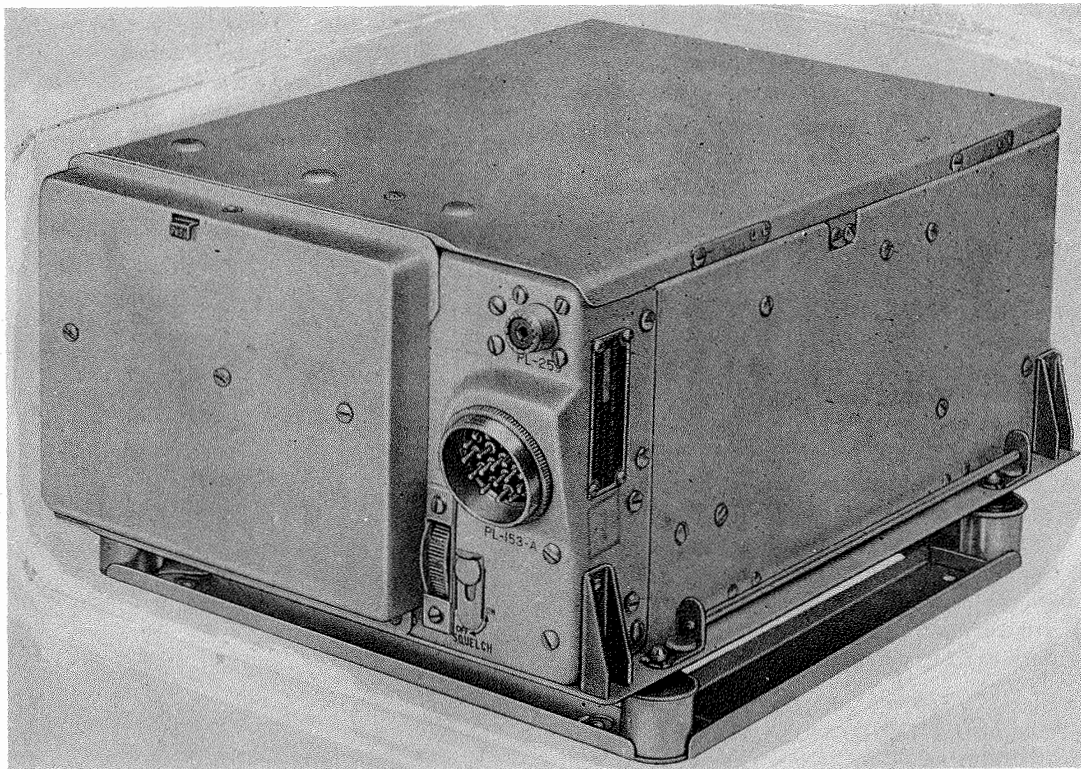

Figure 1-12. Radio Receiver R-77/ARC-3 on Mounting Base MT-237/ARC-3
(1) The radio receiver is a 17-tube, crystal-controlled superheterodyne. (See figs. 1-12 through 1-18.) Four dual-purpose tubes are used. This receiver operates on any preselected channel within the frequency range of the equipment. The various channels are automatically selected by an electrically operated channel-selecting mechanism when any one channel is selected on the
(2) With the exception of its power supply, the entire receiver is housed in a metal cabinet. The top and bottom covers and the "wrap-around" position of the cabinet forming the two sides and back are removable. The crystals are housed in the compartment extending across the top of the front panel. (See fig. 1-12.) Located directly below this crystal compartment are eight thumbwheels calibrated in megacycles; these are for selecting the correct harmonic frequencies for each channel or groups of channels. To gain access to the crystal compartment and the thumbwheels, release the latch on the hinged metal cover on the front panel. (Note: The cover
(4) Receptacles for external connections to the receiver are mounted on the front panel. The receptacle marked "PL-153-A" is mounted on that portion of the panel which is tilted outward and downward to provide drainage for the plugs in preventing excessive accumulation of moisture under humid conditions (See fig. 1-12). The antenna receptacle "PL-259" is mounted directly above "PL-153-A" on the flat surface of the panel. Inside the set, attached to a bracket on the right side of the chassis, is another receptacle, marked "PL-152." This is used only for making connection to Test Unit TS-178/ARM-1 when aligning the receiver. Radio Receiver R-77A/ARC-3, R-77B/ARC-3, R-428A/ARC-36, R-428B/ARC-36, or R-608/ARC-49 has an IF receptacle (PL-284) located adjacent to the antenna receptacle which permits injection of a 12-megacycle signal from the guard channel converter.